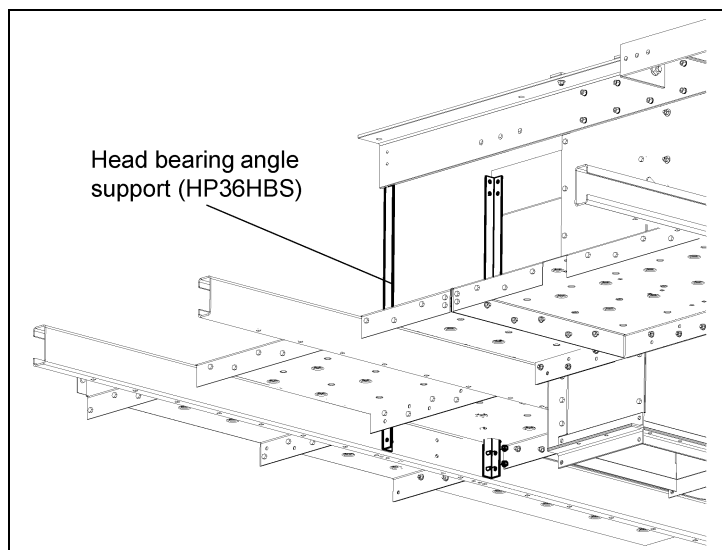

Figure 10B 36" Bearing Support Angle
1. Place two (2) head bearing angle supports (HP36HBS) as shown in *Figure 10B.*